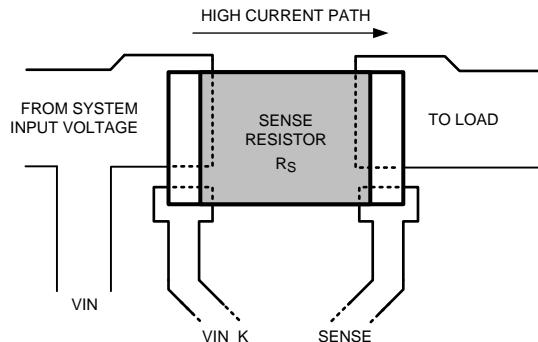
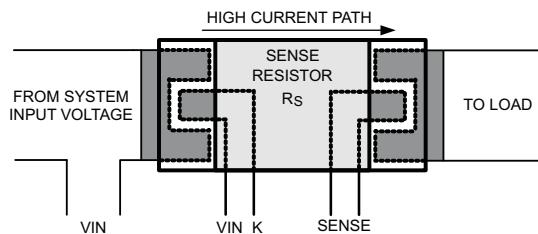

Figure 14. Sense Resistor Connections, Edge Sensed
Figure 15. Sense Resistor Connections, Centered Sensed
Connections from R_S to the LM5056/LM5056A should be made using Kelvin techniques. In the suggested layout of Figure 14 the small pads at the lower corners of the sense resistor connect only to the sense resistor terminals, and not to the traces carrying the high current. With this technique, only the voltage across the sense resistor is applied to VIN K and SENSE, eliminating the voltage drop across the high-current solder connections.
If the PCB layout and resistor pads allow for it, the connection shown in Figure 15 gives optimal kelvin sensing performance.
- The sense resistor (R_S) should be placed close to the LM5056/LM5056A. Connect R_S using the Kelvin techniques shown in Figure 14 or Figure 15.